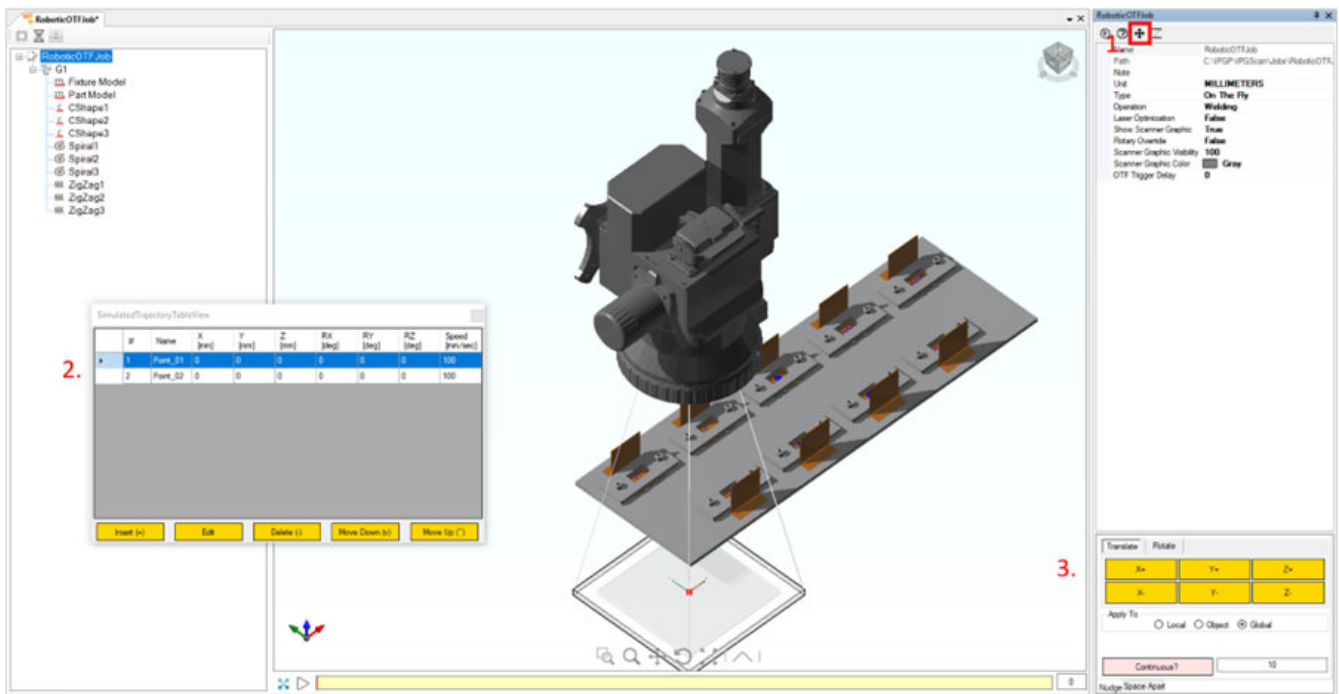

Figure 245: Using the Nudge Tool to Position Simulated Trajectory Points
- The Nudge Tool - Users can open the Nudge Tool, select the desired simulated robot point to move, and then reposition the point by clicking the Nudge Tool buttons. See Figure 245 (below).